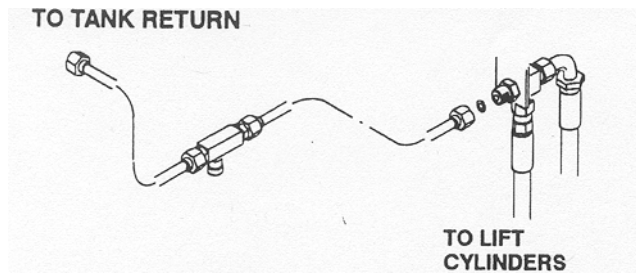

Figure 12
2. Fitting (2)
- Loosely secure the new hydraulic tube assembly to the flow control valve (Fig. 12). The arrow on the flow control must point in the direction of the tube to the tank return.